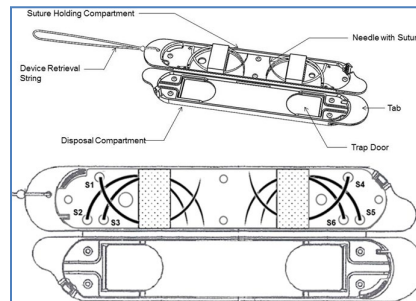

Figure 2 - Views of StitchKit Device when it is open, illustrating key parts and symbols (S1, S2, etc.) on suture exit holes that identify each suture.
- 5.1. Place the used needle (with remnant suture removed) into the disposal compartment via the trap door. It is typically easier to place the blunt aspect of the needle into the compartment first (Figure 2).
Figure 2 shows two views of the StitchKit® device in its open configuration. In the top view key features such as the Disposal Compartment, Retrieval String, and Tabs at the ends of the device are highlighted.
The lower view in Figure 2 illustrates how each suture exits the device through a unique Exit Hole labelled to identify the suture types. In an actual device the generic labels S1 through S6 are replaced with short symbols identifying the actual sutures within the device.